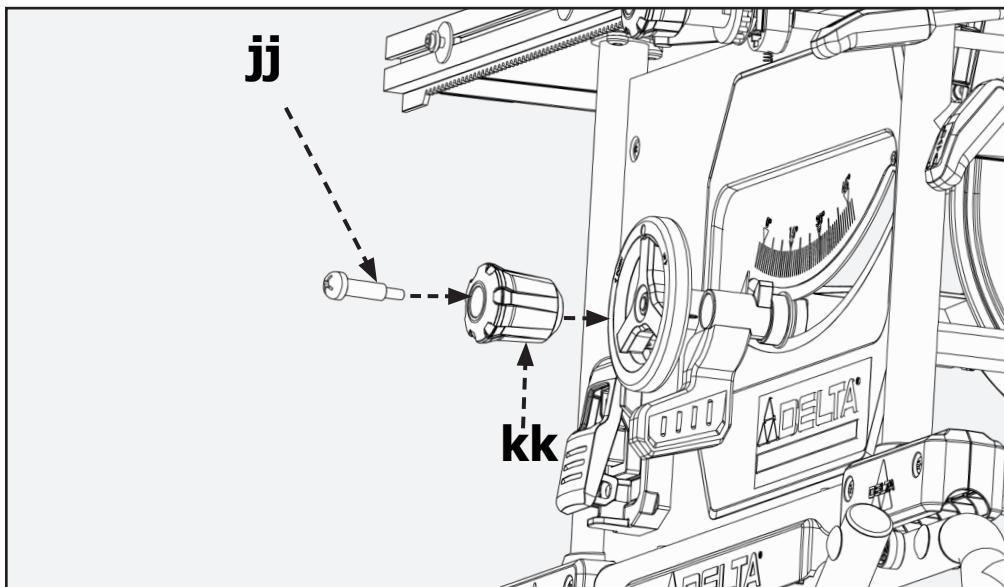
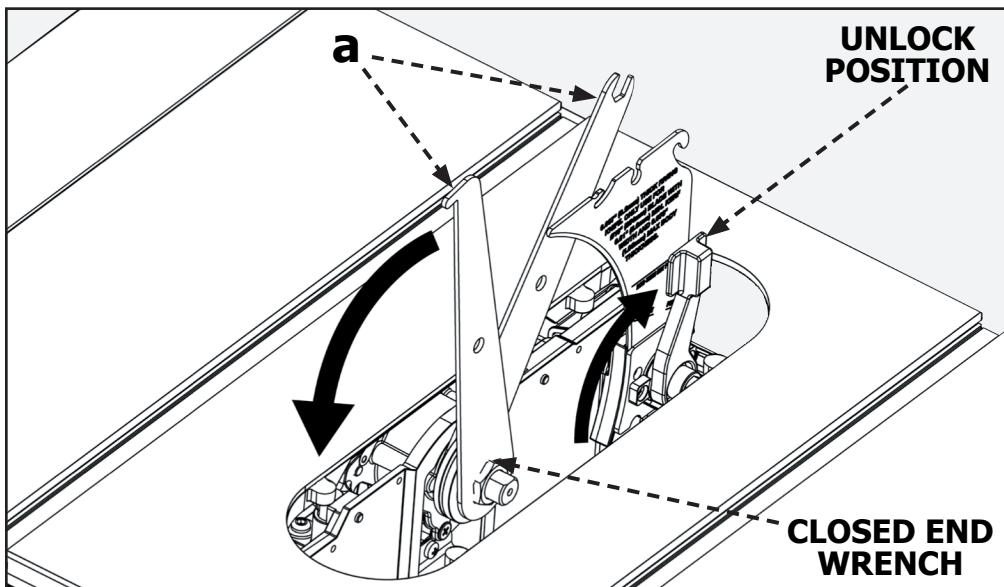

FIGURE 1
FIGURE 2
1. Insert wheel handle shoulder screw (jj) into height adjustment wheel knob (kk) as shown in Figure 1.
After installing height adjustment knob as shown in Figure 1, raise motor/arbor assembly to the upper most position to provide easy access to riving knife lock lever and arbor assembly. Ensure riving knife lock lever is in unlock position. See Figure 2. Detach the on-board wrenches located on the right side of the saw by loosening and removing M8 wing nut. Place the open-ended wrench (a) on the spindle shoulder between the arbor flange and inner flange. Place the closed end wrench (a) over the arbor nut. Holding the spindle shaft in place, loosen and remove the arbor nut and arbor flange. See Figure 2. Only use 10 in. blades designed for wood cutting. **NOTE:** Use only 10" (254 mm) diameter blades with 5/8" (16 mm) arbor holes, rated at 5,000 rpm or higher, 0.10" (2.6 mm)min. kerf width and 0.073" (1.85 mm) max body thickness. Only use 10 in. blades designed for woodcutting. Use only a saw blade diameter in accordance with the markings on the saw.